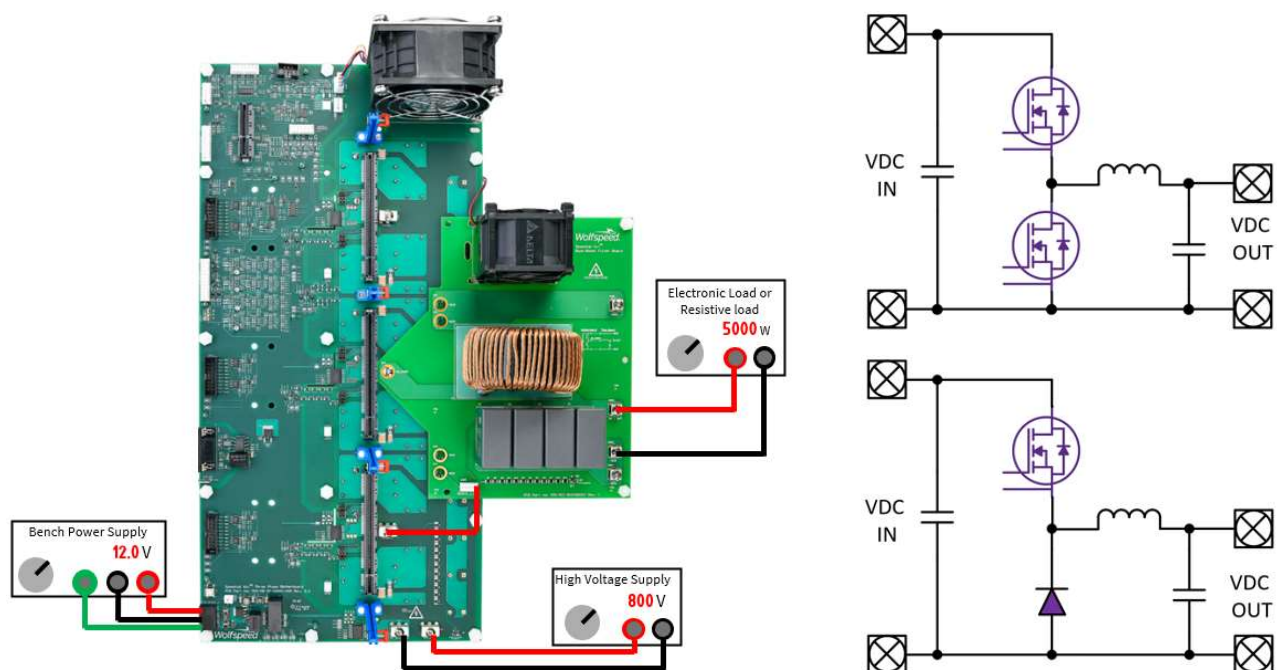

Figure 47: Connection diagram for buck converter
- Connect buck/boost filter board to the motherboard using the 5 screws and terminal nuts on the motherboard (Figure 47).